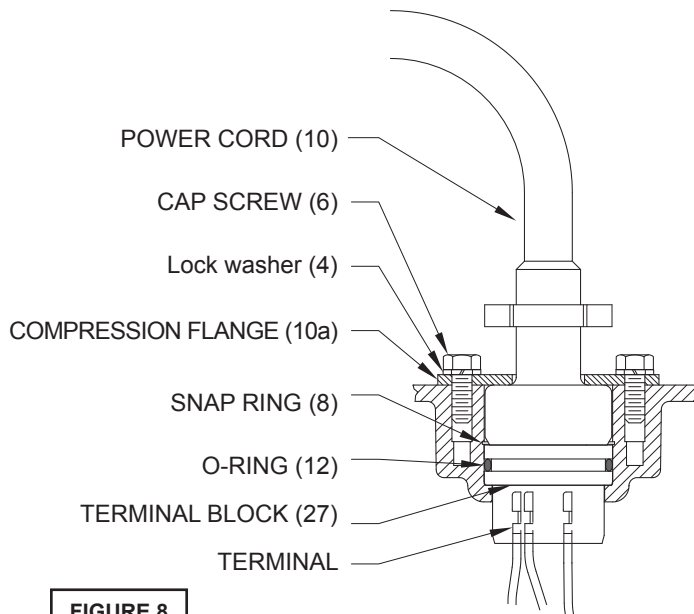

FIGURE 8
Reconnect motor leads to the underside of the terminal block(s) (27) as shown in Figure 8. Note that the pins are numbered underneath the terminal block. Place o-ring (12) into groove in terminal block (27) and lubricate with dielectric oil. Press the terminal block (27) into the housing so it seats completely below the snap ring groove. Place snap ring (8) into groove in cord entry bore of motor housing (2). Repeat terminal block installation for sensor cord, if equipped.